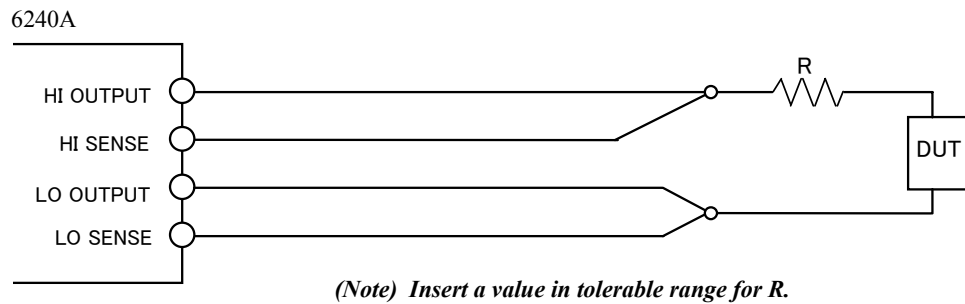

Figure 5-5 Solution for SMU Oscillation
4. If the oscillation does not stop even if the cables are the shortest, insert the resistor with an tolerable load as shown in Figure 5-5.